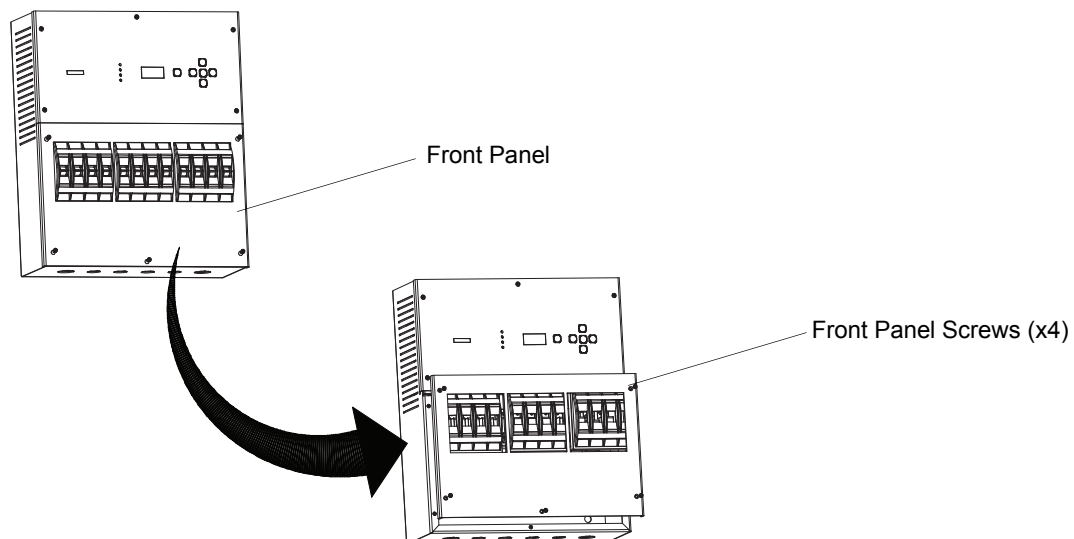

Figure 4: Relayrack Relay Front Panel Removal
Step 2. As shown in **Figure 4**, remove four screws securing front panel.